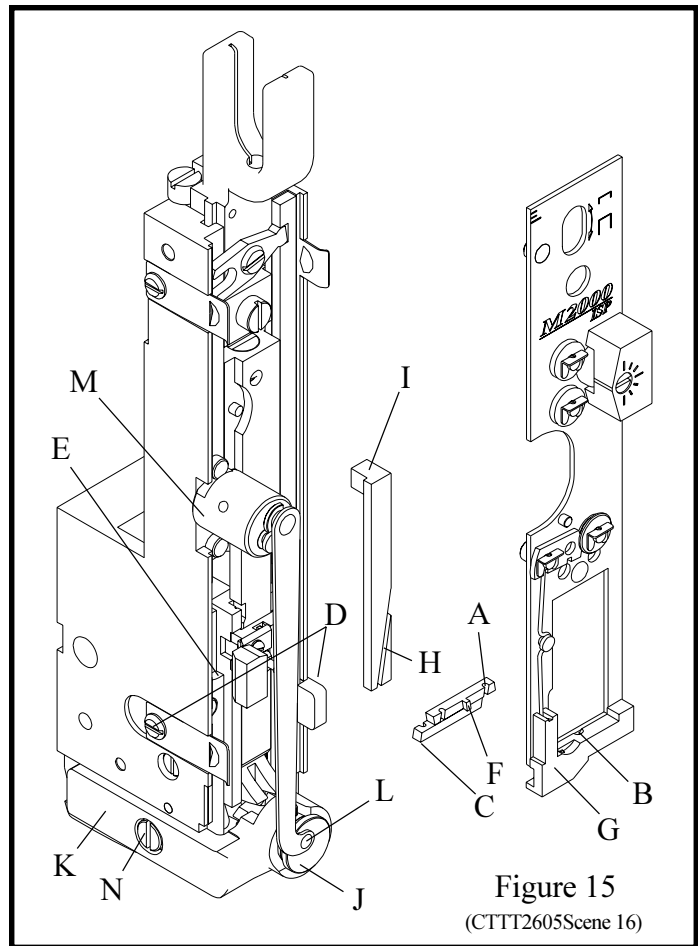

Figure 15
I. Wire Cutters: (Figure 15)
3. Lift end of spring (Index L, Figure 15) out of rotator.
5. Slip the rotator operating cam (Index M, Figure 15) forward and off the stud.
11. Remove the cutter operating slide (Index I, Figure 15).
L. Rotator (Figure 15)
The rotator holder and rotator operating spring are responsible for alignment of the wire beneath the bender bar grooves. The position of the rotator holder determines how far the rotator is pushed forward under the bender bar by the rotator operating spring (Index L, Figure 15). A weak spring will not push the rotator in far enough and with this improper alignment the bender bar will knock the wire from the rotator or will shear the wire into pieces. To secure proper alignment, check the position of the rotator holder and the tension applied by the rotator operating spring. Make any necessary adjustment of the rotator holder or replace the rotator operating spring if weak.
3. Loosen the rotator holder screw (Index N, Figure 15).